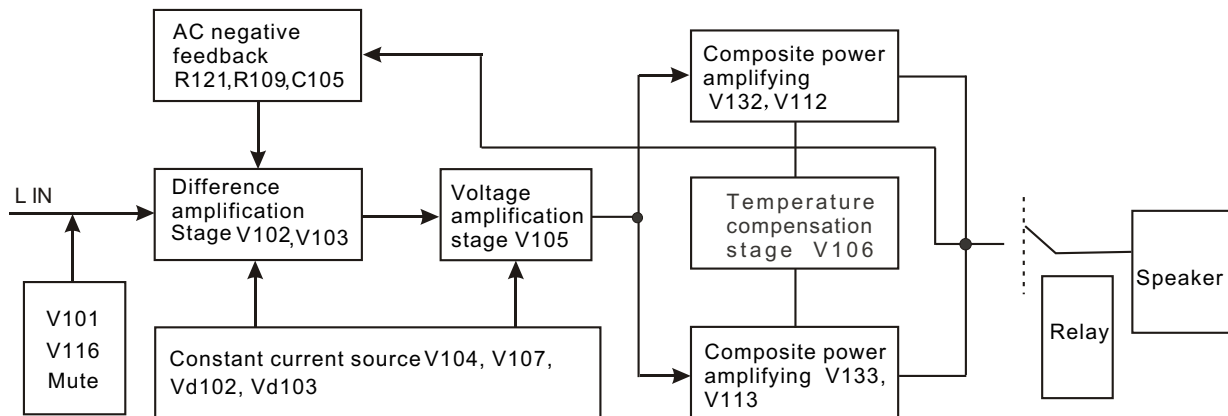

Figure 3.2.6.1 L input block diagram
L, R channel power amplifying circuit of AV225T (RU) is composed of discrete components. The composed block diagram is shown as in the figure 3.2.6.1: (take L channel as instance)